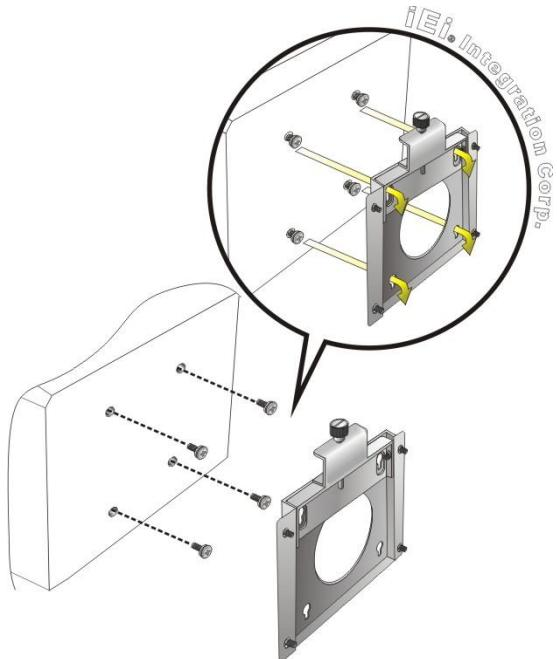

Figure 3-20: Chassis Support Screws
Step 8: Carefully insert the screws through the holes and gently pull the monitor downwards until the monitor rests securely in the slotted holes (**Figure 3-20**). Ensure that all four of the mounting screws fit snugly into their respective slotted holes. Always keep the AFL4-W07-RK3566 in landscape orientation when mounting on the wall.